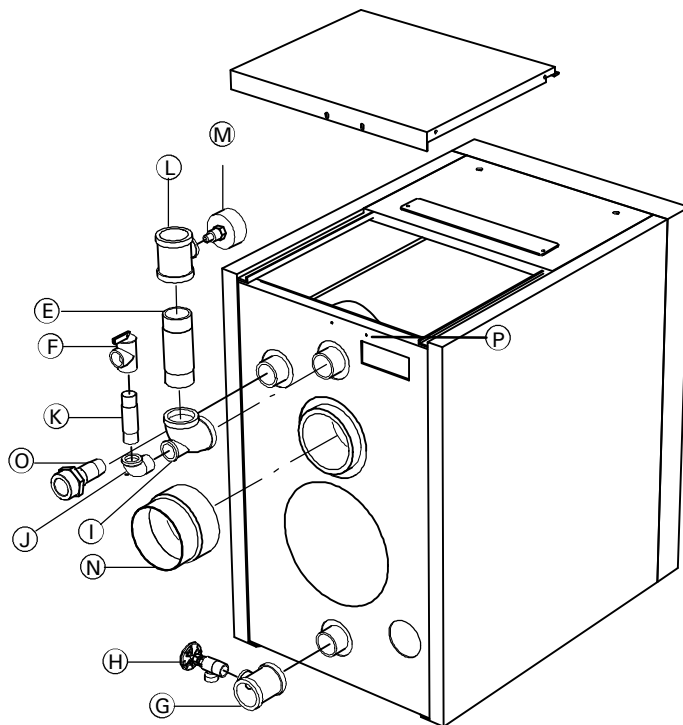

Fig. 16
3. Connect system supply to Ⓐ using NPT fittings, as shown in Fig. 16. Connect the system return to Ⓑ using NPT fittings. See installation examples starting on page 52.
4. Install temperature and pressure gage with brass extension coupling Ⓜ in ½" opening as shown in the illustration, as shown in Fig. 16. Use thread sealing compound such as pipe dope or Teflon tape.